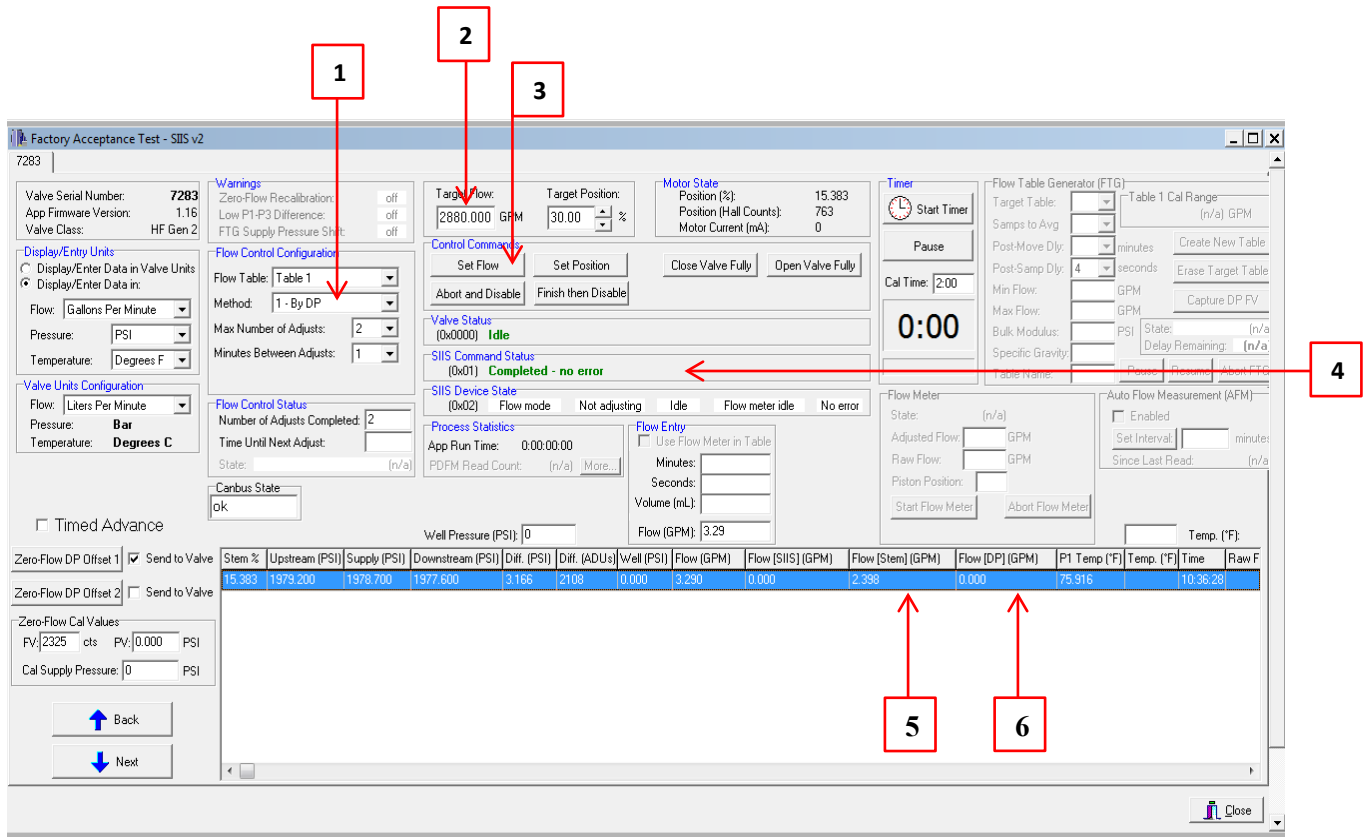

Figure 56: Test Sequence for Flow Rate Adjustment
24.2.8.1 Refer to User's Manual (DOC-00969 for SIIsv2 analog products and DOC-00999 for Modbus analog products) and Figure 56.